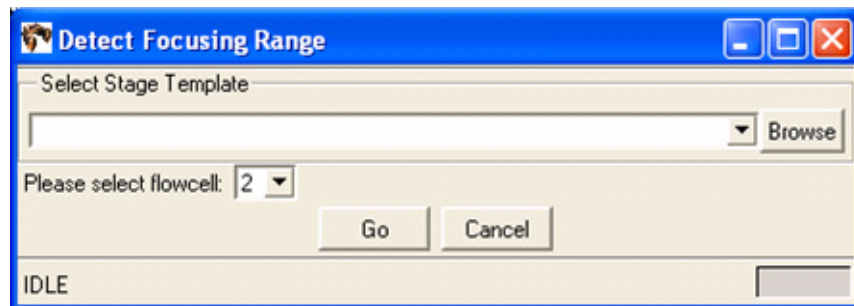

Figure 54 Detect Focusing Range dialog.
3. In the focusing range dialog, specify the stage template file by entering the name directly or by clicking the **Browse** button to navigate to a suitable one (see Figure 54). The stage template must match the slide in the target flowcell(s). If you created a run from the ICS, then select the file **imagingMap.STG** from the subdirectory in C:\Runs whose name matches the name of the run (for example, select C:\Runs\Solid0327_20081209_2_Oct_Test\imagingMap.STG).